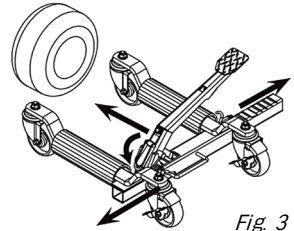

Fig. 3
1. Release the foot pedal (D) by depressing it and disengaging the pedal lock (F).
2. Release the castor brake. Place the lever (E) in the down position. Roll the jack to the tire's side and push the jack forward so that rollers are on either side of the tire (Fig. 3).